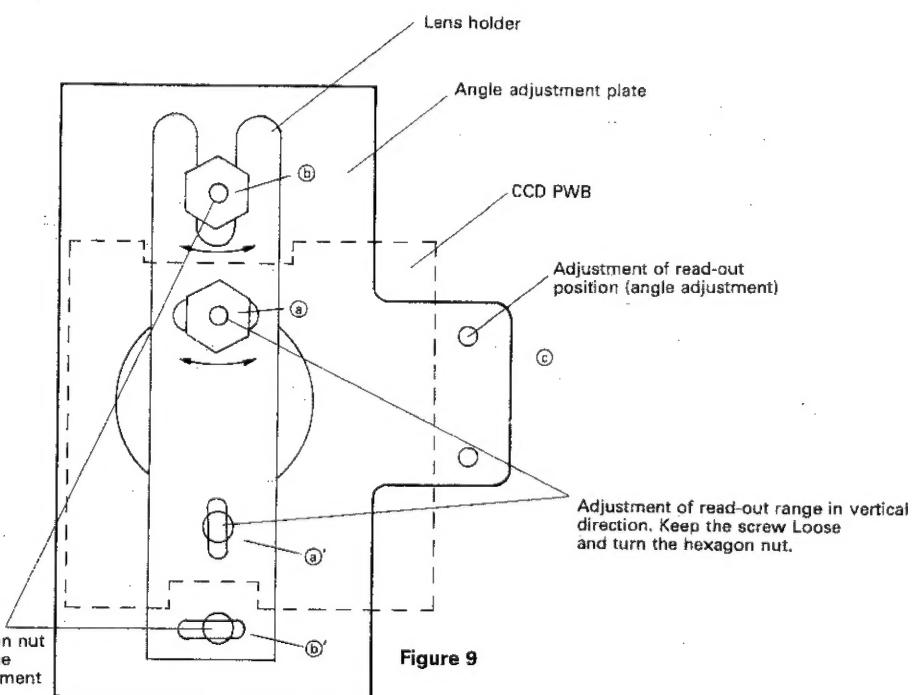

Figure 9
- (4) Loosen the screws ① and ①' shown in Figure 9.
- (1) Make a copy of one frame and check its printing condition.
- (2) When the resultant print is like the one shown in Figure 14, turn the screw ④ shown in Figure 9 slowly counterclockwise while making copy of one frame. Stop the screw when the print becomes like the one shown in Figure 15. At this point, the adjustment is finished.
- (1) Remove the rear cover and install the printer.
- (2) Turn on the power switch and make initial setting.
- (3) Draw a perpendicular line with a black marker along with an arbitrary vertical line at the centre of the writing white sheet.
- (4) Loosen the screws ⑤ and ⑤' shown in Figure 9.
- (1) Make a copy of the frame with the vertical line.
- (2) Check the condition of the copied line.
- (3) When the vertical line is printed like the way as shown in Figure 17, turn the hexagon nut ⑥ in Figure 9 counterclockwise using the adjustment Tool until the line becomes like the one shown in Figure 18. When the line is printed like Figure 20, turn the hexagon nut clockwise until the line becomes like Figure 18 or 19.